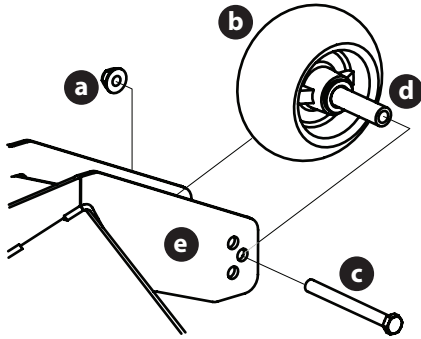

Figure 46
2. Remove the lock nut (a) securing one of the front gauge wheels (b) to the deck. Remove the front gauge wheel (b), hex screw (c) and spacer (d) (Figure 46).
3. Insert the hex screw (c) into one of the three index holes in the front gauge wheel bracket (e) that will give the front gauge wheel (b) a 1/4-1/2" clearance with the ground (Figure 46).
4. Note the index hole of the just-adjusted front gauge wheel (b), and adjust the other front gauge wheel (b) into the respective index hole of the other front gauge wheel bracket (e) (Figure 46).